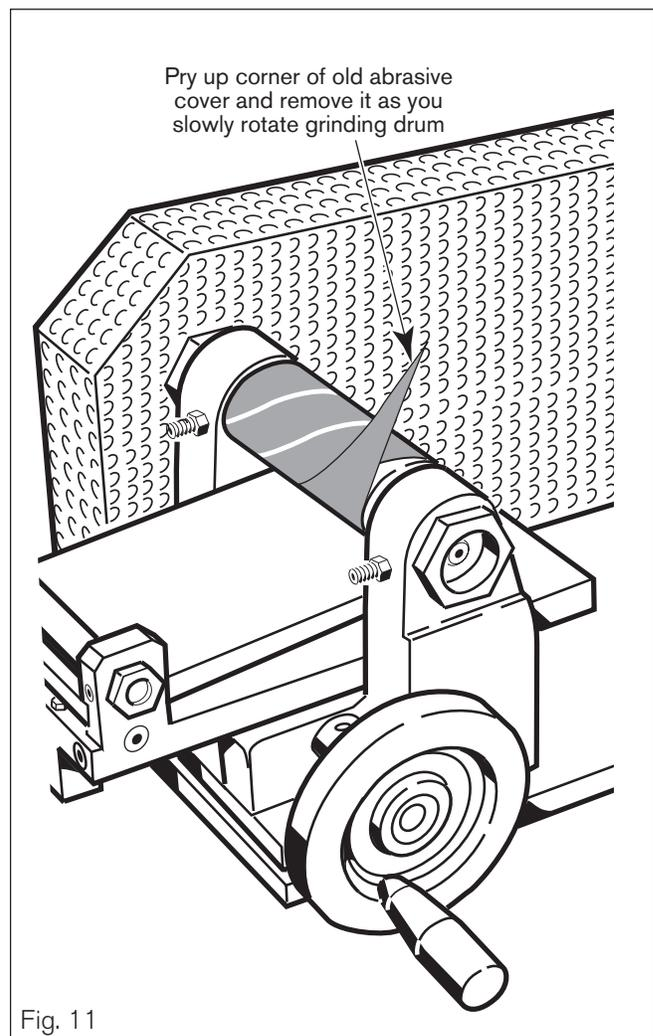

Fig. 11
4. Carefully peel off the abrasive by slowly turning the grinding drum as shown in Figure 11.